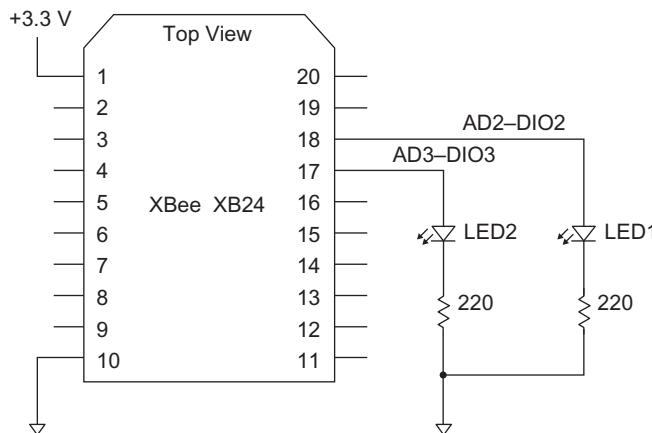

FIGURE 12.1 In this experiment you must connect an LED and a resistor in series for two I/O pins.
Step 3. The schematic diagram in Figure 12.1 shows the connections needed for the XMTR module in your breadboard. If you have connections other than 3.3-volt power (pin 1) and ground (pin 10) on the XMTR module, disconnect them now. Connect the LEDs and resistors to the AD2-DIO2 pin (pin 18) and the AD3-DIO3 pin (pin 17).